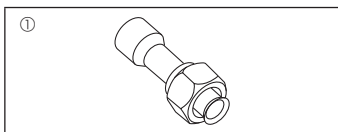

Fig. 1-1
1.6. Accessories of outdoor unit (Fig. 1-1) (SHW230)